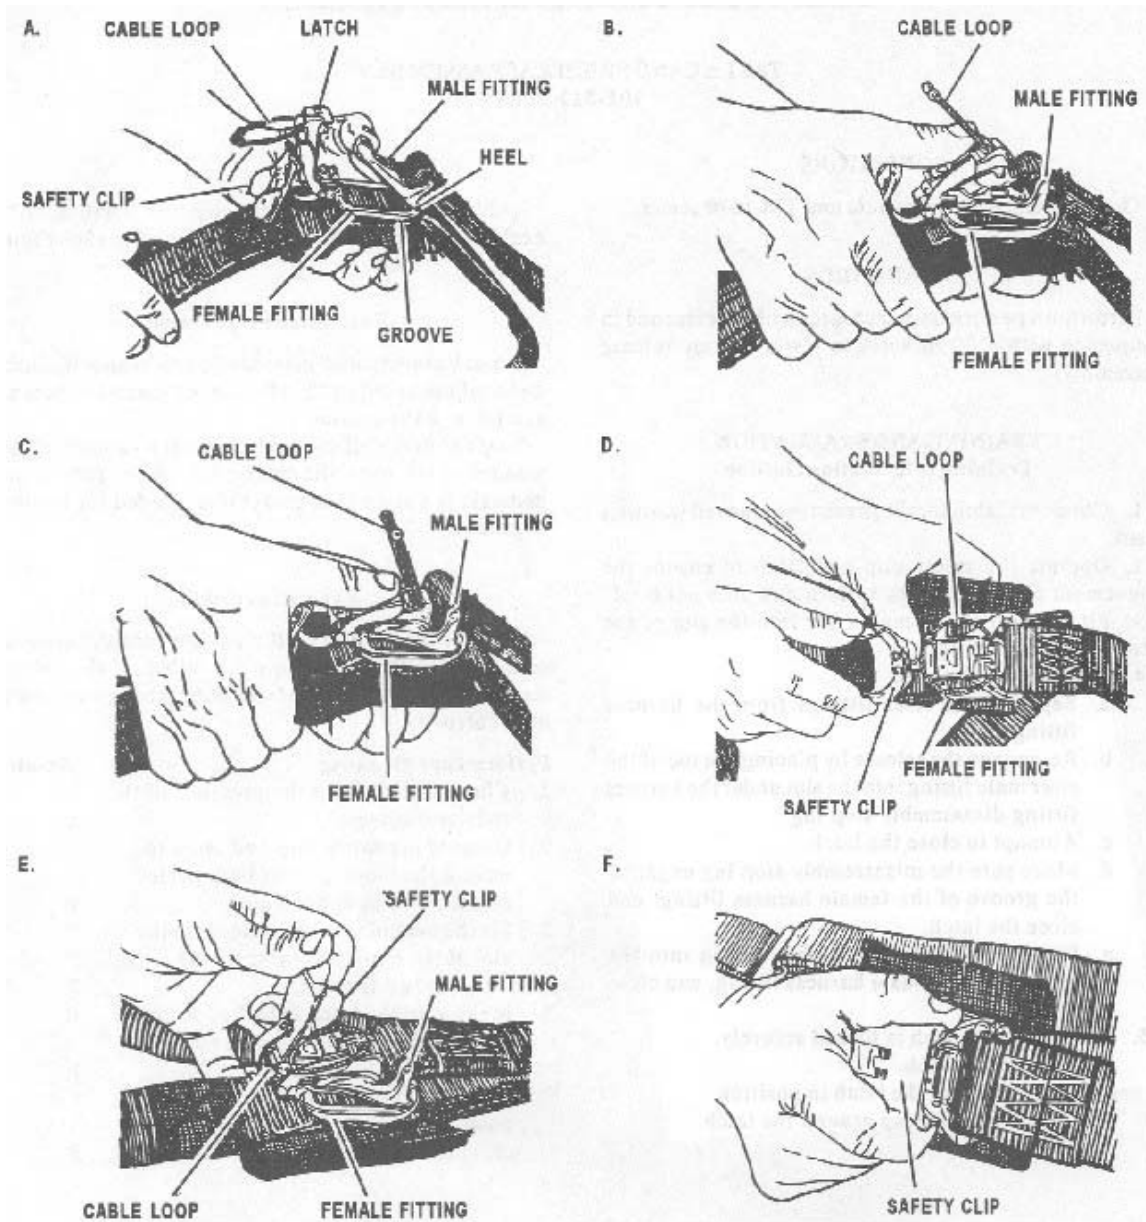

Figure 3-59
7. Fit the heel of the safety clip into position at the heel of the latch, and close the safety clip. (See Figure 3-59)